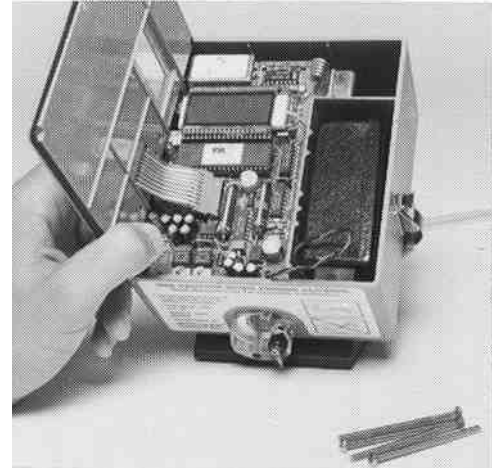

Figure IV-2. Removing the front cover
Step 2. Carefully lift the front cover to expose the printed circuit board and DIP switches (fig. IV-2).